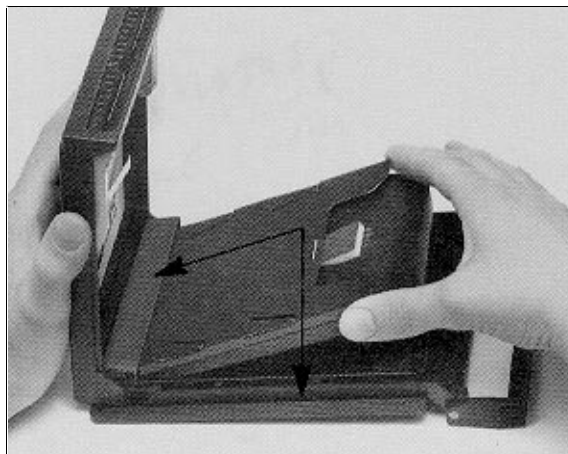

Figure 3-1. Inserting Film Pack
- b. Hold the film pack by the edges, not in the center. Insert the pack at an angle, then push it down into position (figure 3-1).